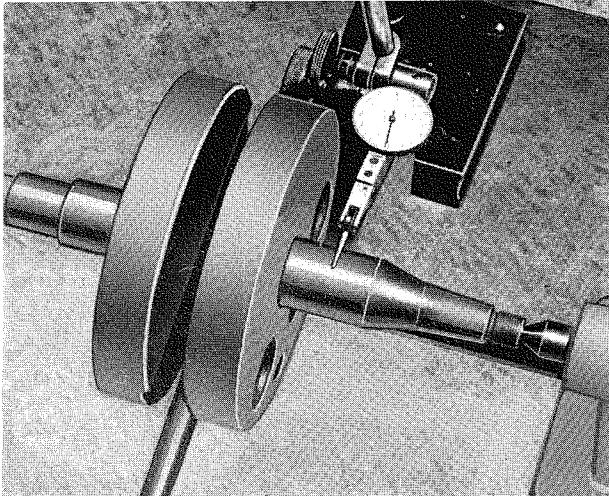

Fig. 10
9. Check the jerks of the crank shaft by means of an indicator clock. See fig 10 and 11.